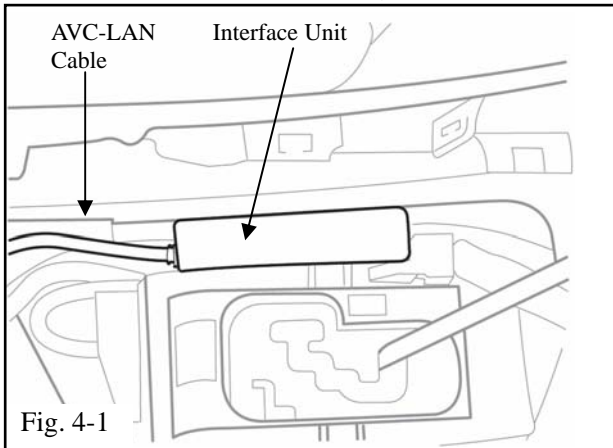

Fig. 4-1
- (c) Carefully insert the interface unit into the open space next to the shift lever with the AVC-LAN cable routed toward the rear of the vehicle. (Fig. 4-1)